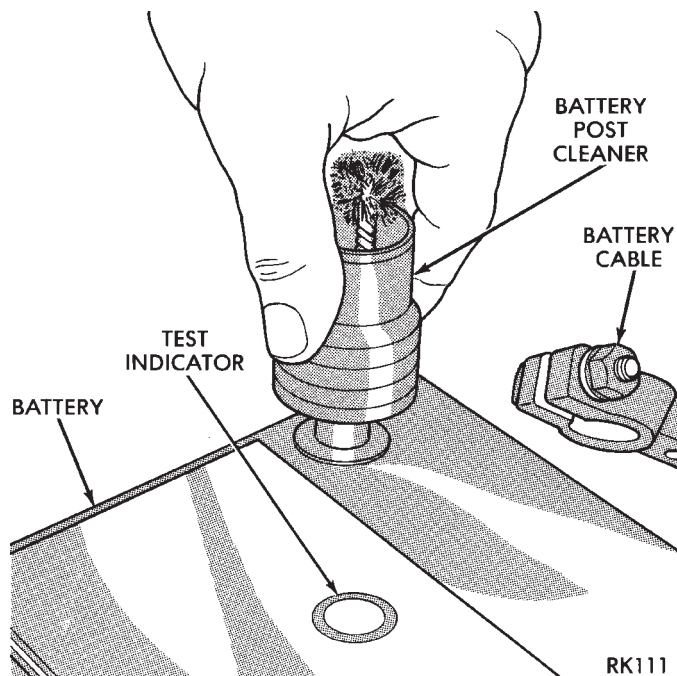

Fig. 5 Cleaning Battery Posts
(7) Clean battery posts with a suitable battery post cleaning tool (Fig. 5).